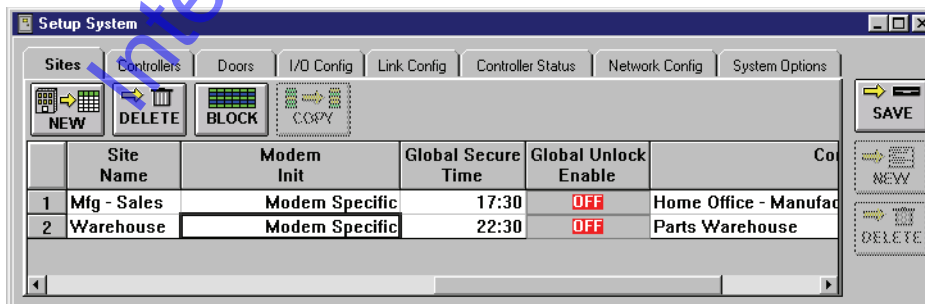

Figure 8-13: Data Copied
- Click on the  button. All data that is able to be copied will be transferred (see Figure 8-13).